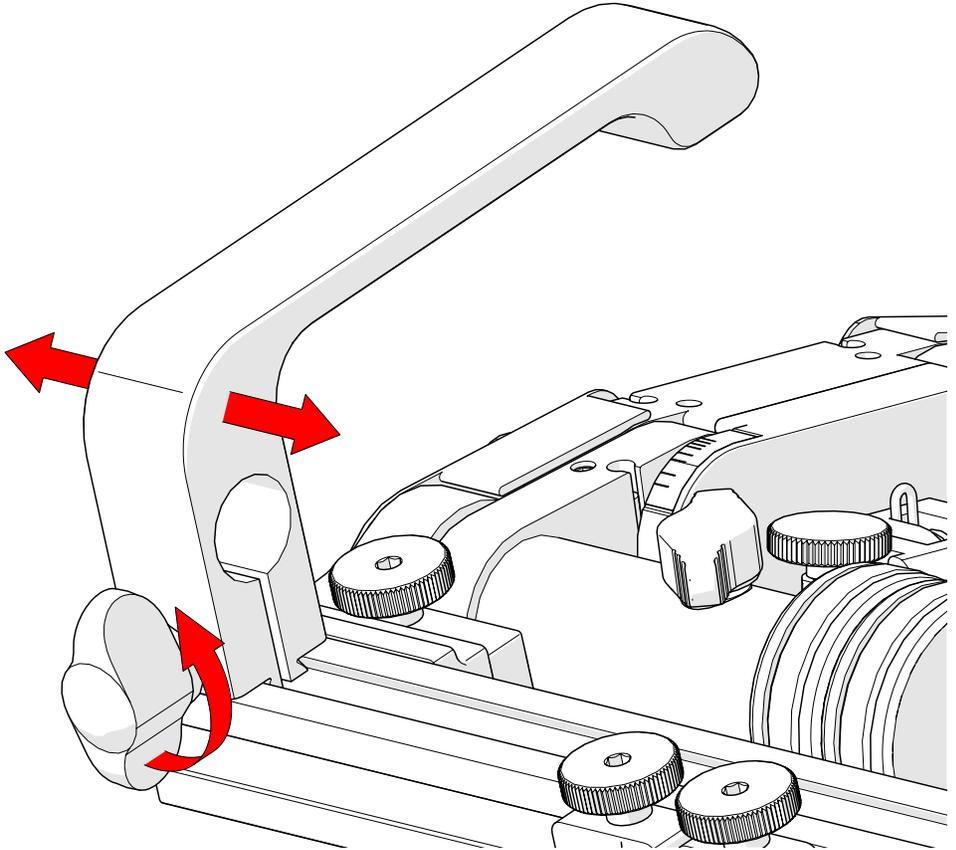

Fig. 20 - Loosen black wing knob to reposition or remove
1. To reposition or remove the dovetail handle from the frame bar, Loosen the dovetail handle's black wing knob (Fig. 20).